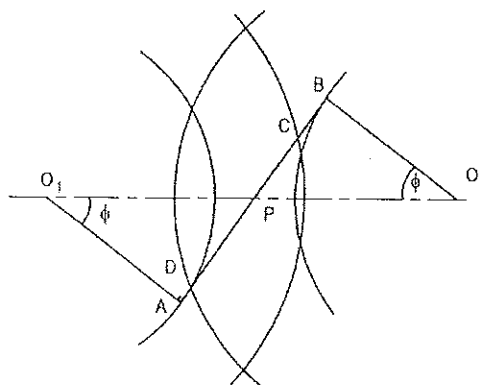

Fig.Q6
- Two gears having 30 and 40 involute teeth are in mesh as shown in Fig.Q6. Pressure angle $\phi = 20^\circ$; module $m = 12$ mm. The line of contact on each side of the pitch point is half the maximum possible length (path of contact). Find the height of addendum for each gear wheel and the length of the arc of contact.